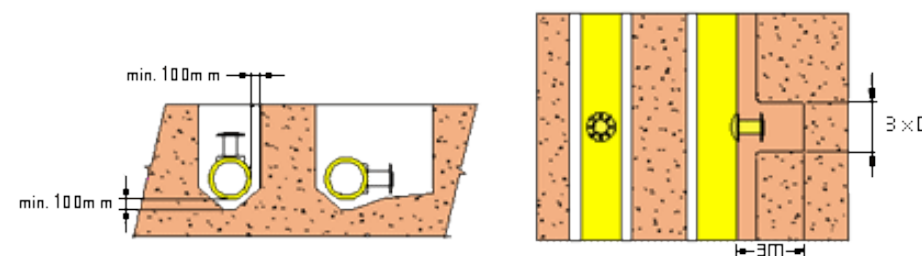

Figure 2- Recommended excavation dimension
*Note: Depending on the orientation of the branch saddle (horizontal or vertical) sufficient clearance around the pipe and for the drilling machine must be made, refer to Figure 2 for dimensions.*